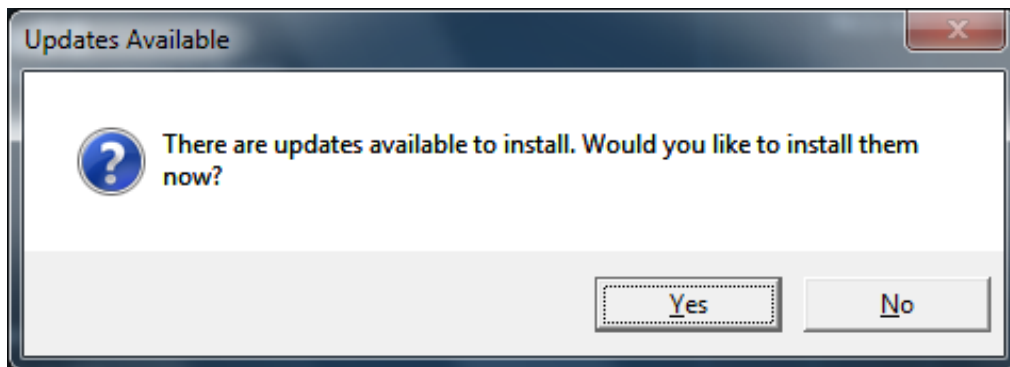

Figure 130. Update Available Window
2. Log off and then log in again. The **Updates Available** window opens, as shown in Figure 130.